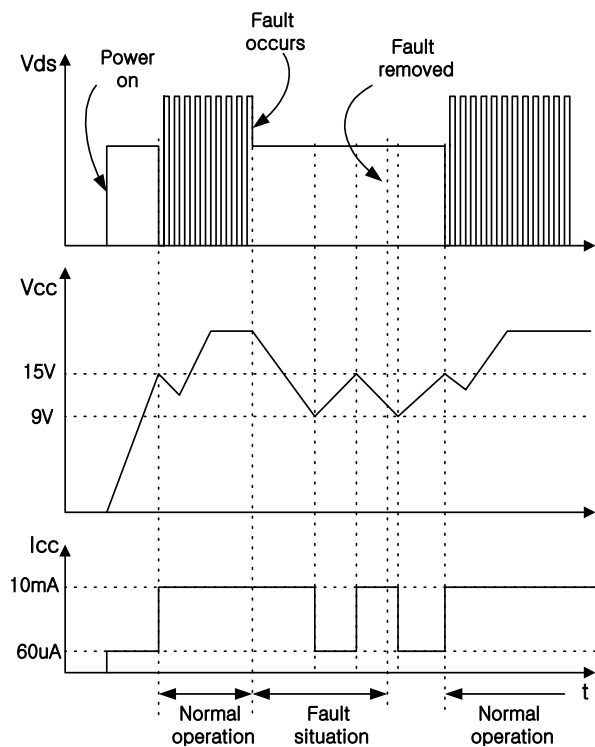

Figure 3. Auto restart operation after protection
3. Protection Circuit : Besides pulse-by-pulse current limit, the FS6X1220R has 3 self protection functions; over load protection (OLP), over voltage protection (OVP) and thermal shutdown (TSD). Because these protection circuits are fully integrated into the IC without external components, the reliability can be improved. In the event of these fault conditions, FS6X1220R enters into auto-restart operation. Once the fault condition occurs, switching operation is terminated and MOSFET remains off, which causes Vcc to be reduced. When Vcc reaches 9V, the protection is reset and the supply current reduces to 60uA. Then, Vcc begin to increase with the current provided through the start-up resistor. When Vcc reaches 15V, FS6X1220R resumes its normal operation if the fault condition is removed. In this manner, the auto-restart alternately enables and disables the switching of the power MOSFET until the fault condition is eliminated as illustrated in figure 3.